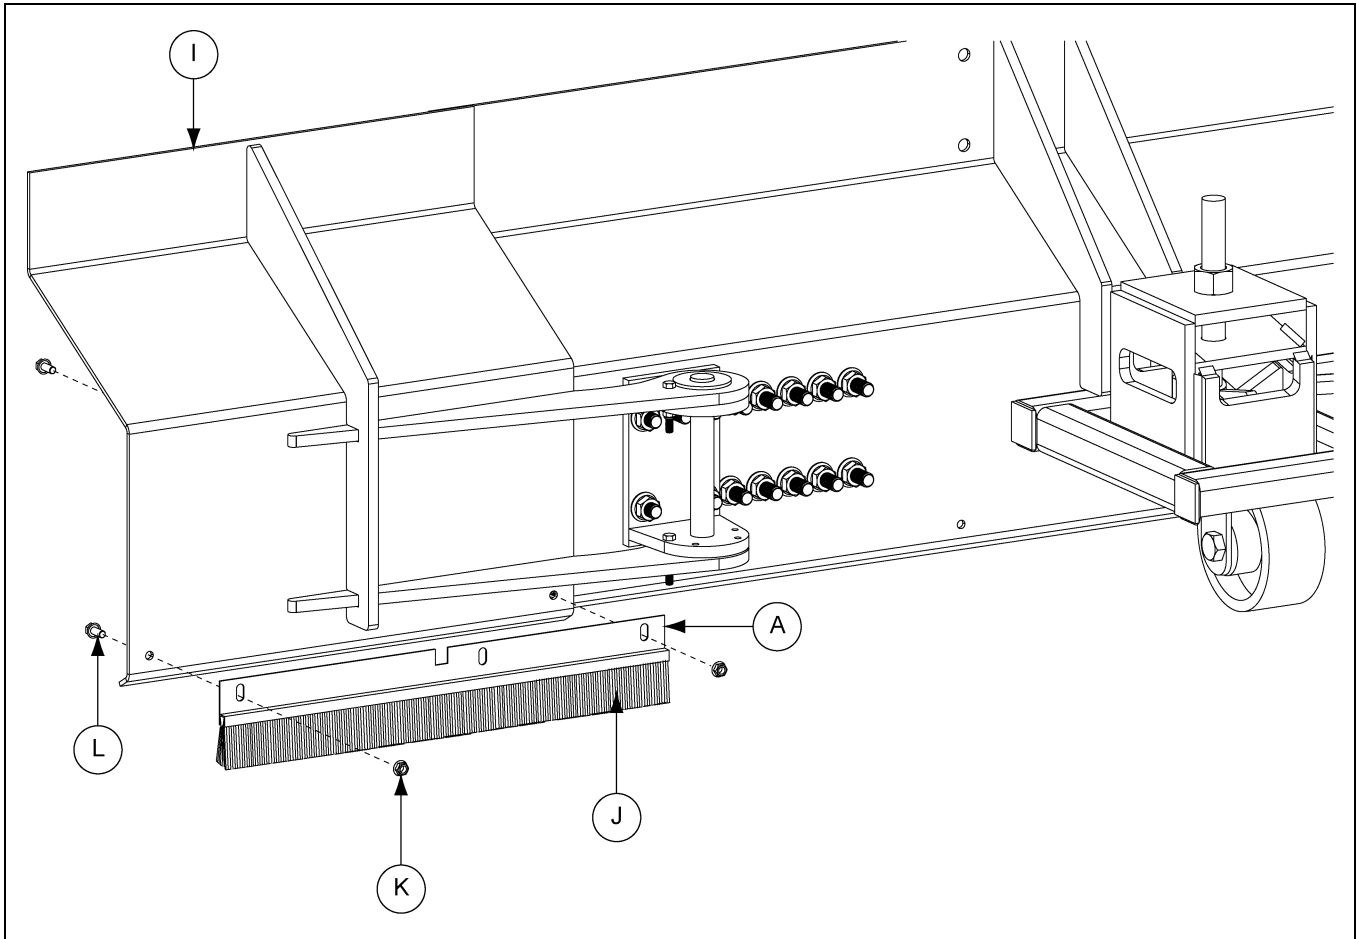

Figure 7N
10. Install brush assembly (A and J) to plow (I) using hex bolts (L) and flange nuts (K). (See Figure 7N.)